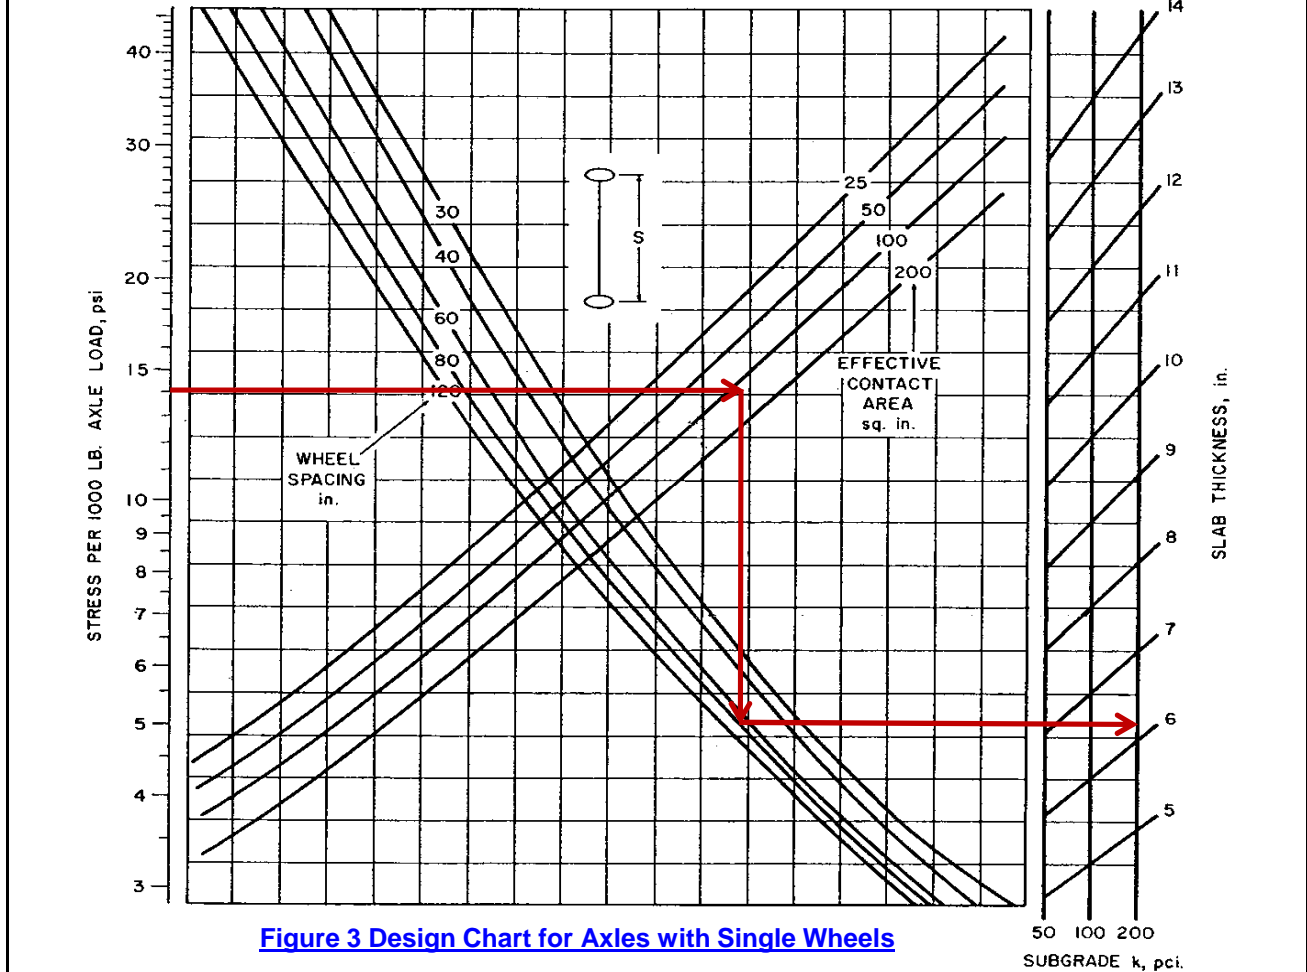

Figure 3 Design Chart for Axles with Single Wheels
Per PCA "Slab Thickness Design for Industrial Concrete Floors on Grade" - Figure 3, page 5
- Instructions for Use of Figure 3:**
t = determined from Figure 3 above